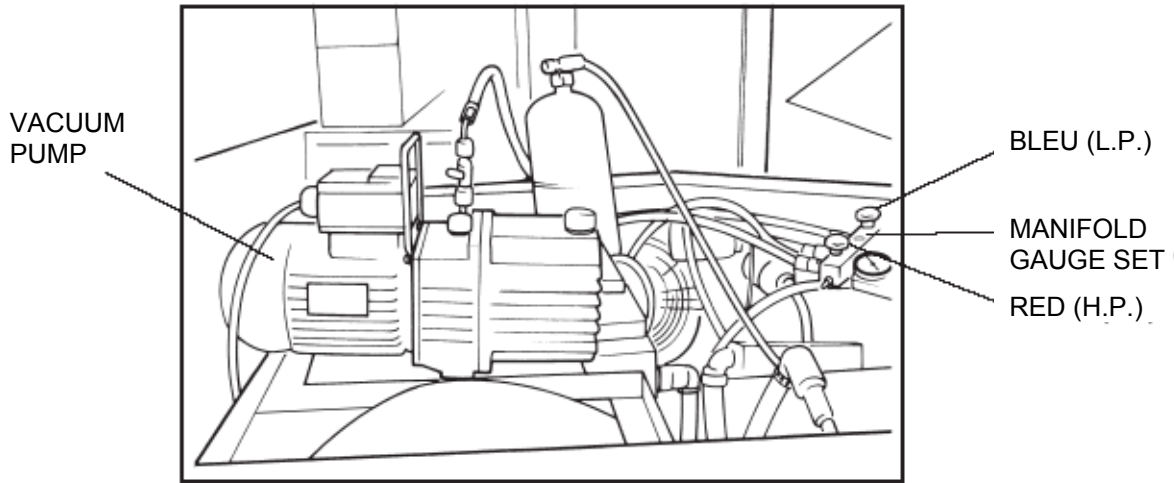

Fig. 16 Vacuum pump
- vacuum pump (ref. Fig. 16),
- 2) Connect the vacuum pump (ref. Fig. 16) to the manifold gauge set (connection 8) and, after the opening of the valves 5 and 6, evacuate the circuit till a pressure < 100 Pa (with the pump ON).
- 1) Connect the vacuum pump (ref. Fig. 16) to the manifold gauge set (connection 8) and the gas valve (bleu) of the recovery cylinder to the connection 9 and, after the opening of the valves 4 and 5, evacuate the cylinder for about 10 minutes. Close the valves and disconnect the cylinder.